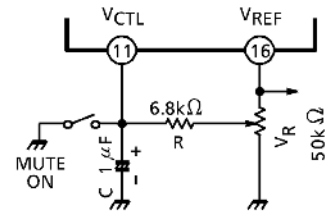

Fig.1 Function of mute
- (1) A volume which has the characteristic “curve A” is available for the DC volume control.
- (2) The capacitor C is used for absorbing volume sliding noise.
- (3) The DC volume control circuit is applicable to “function of mute”, connecting as Fig.1.